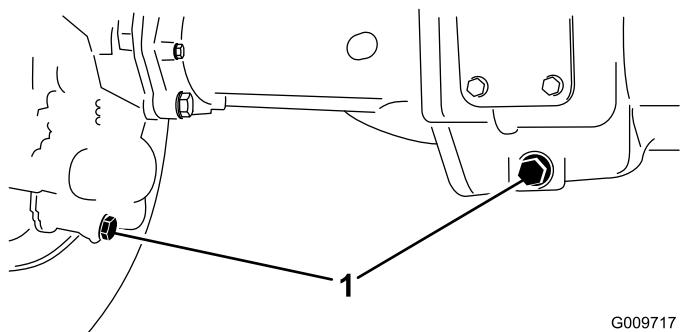

Figure 69
- Clean the area around the 3 drain plugs, 1 on each end and 1 in the center (Figure 69).